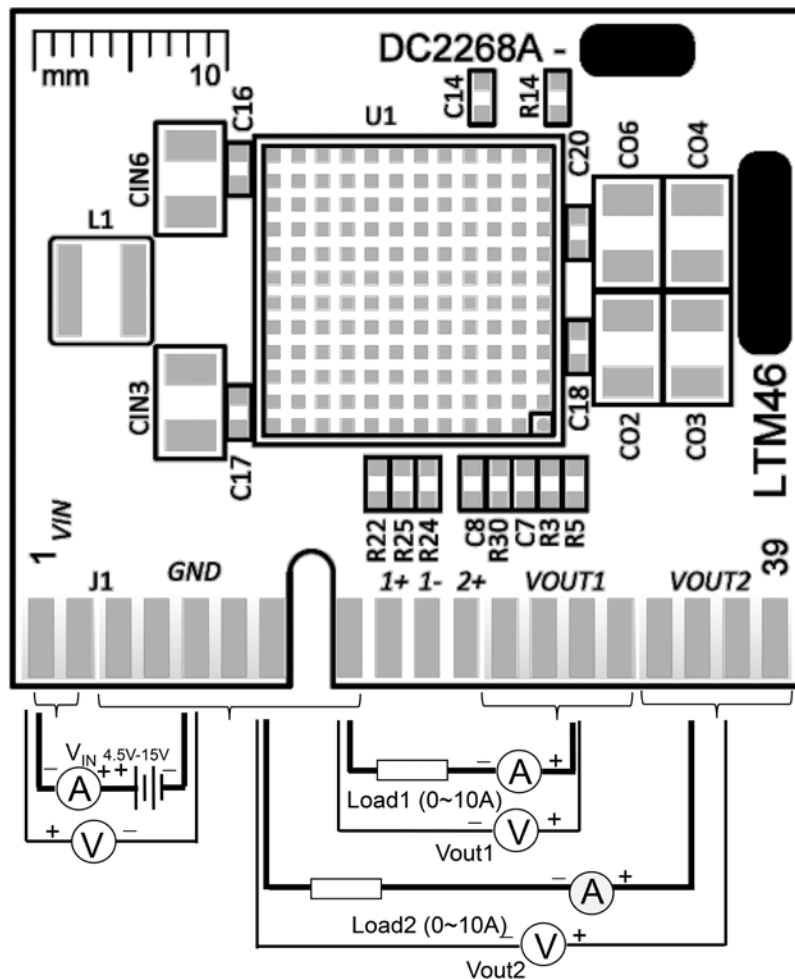

Figure 2. Test Setup of DC2268A-G
Demonstration circuit DC2268A-G is easy to set up to evaluate the performance of the LTM4631. It can be easily inserted to an edge connector (SAMTEC MEC2-20-01-L-DV-TR) for testing and debugging. Please refer to Figure 2 for proper measurement setup and follow the procedure below:
2. With power off, connect the input power supply, load and meters as shown in Figure 2. Preset the load to 0A and V_{IN} supply to 12V.